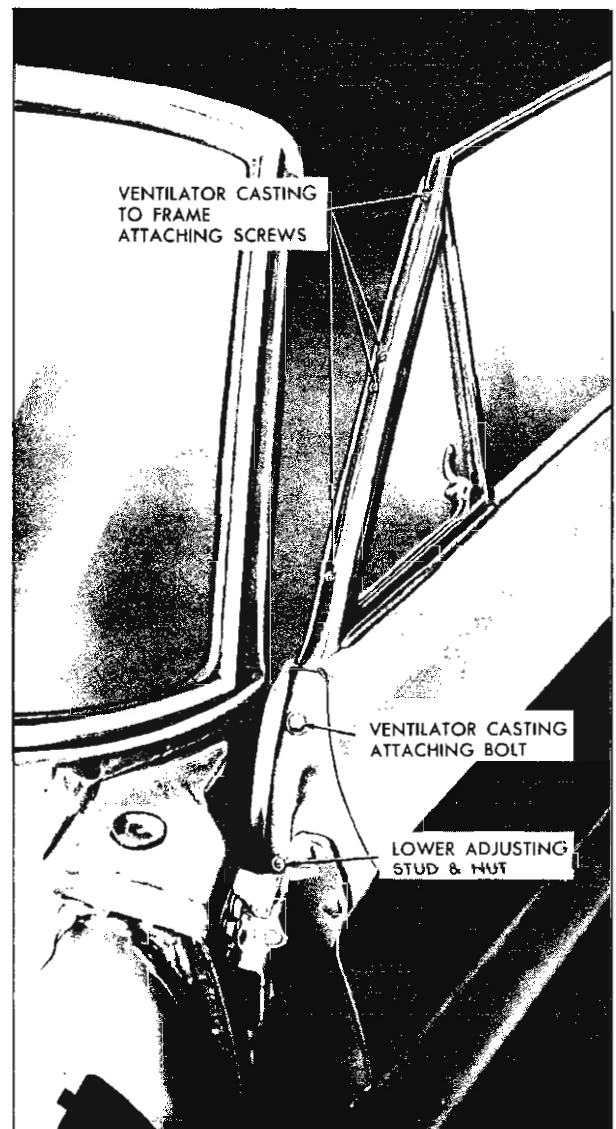

Fig. 12-22 Door Ventilator Casting
2. Remove ventilator casting to ventilator frame attaching screws and remove casting from door (Fig. 12-22).